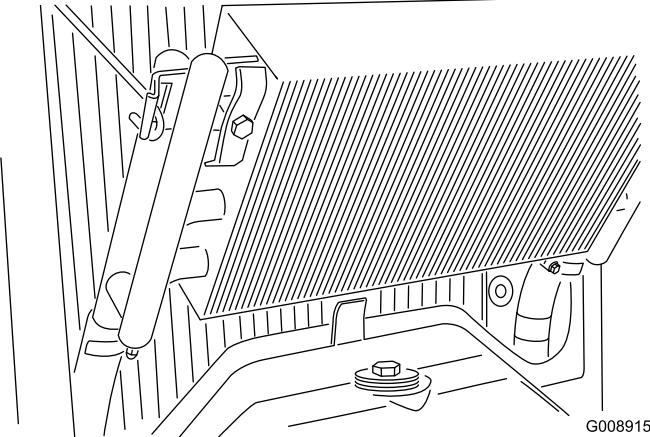

Figure 64
4. Unlatch the oil cooler and pivot it rearward (Figure 64).